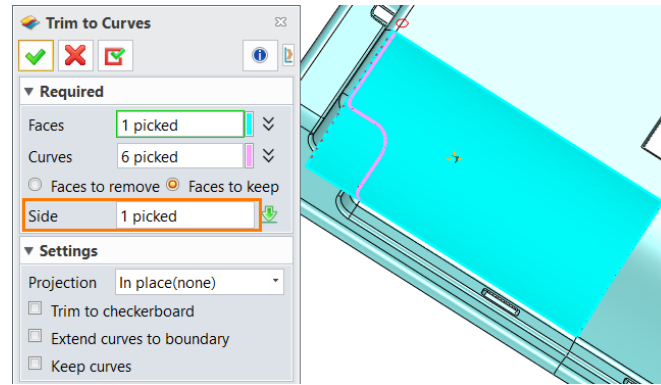

Figure 15 Trim to Curves
STEP 15 *Zoom to* another open edge. Use **Trim to curves** command to trim the face. Setting is shown in Figure 15.